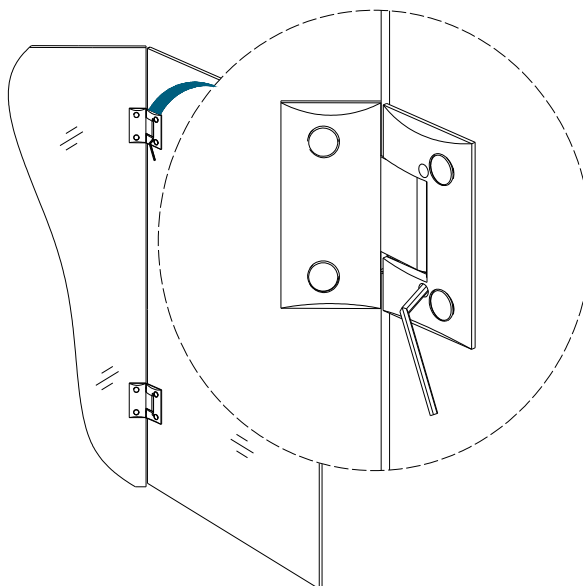

Figure 2
2. The hinges are set to over-close at 130°degrees. You can change this angle by using the adjustment screws on the hinge plate. (Figure 2)